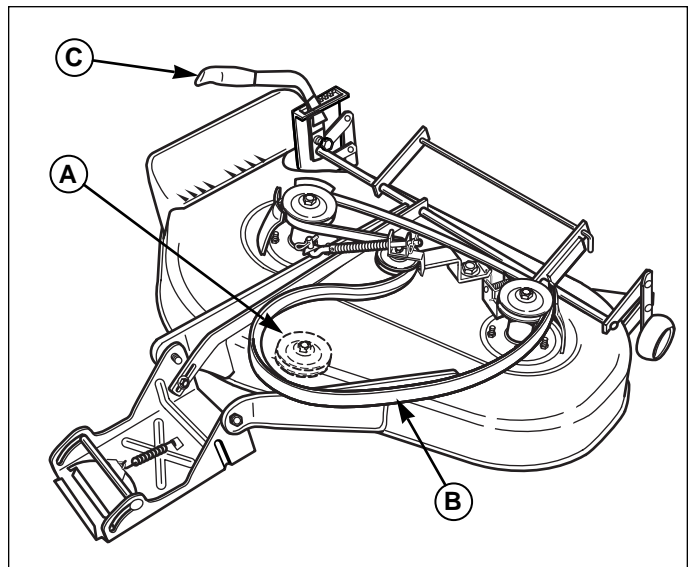

Figure 7. Mower Belt Routing
2. Place mower in the lowest cutting position using the mower height adjustment lever (C, Figure 7).
7. Install the mower drive belt (B, Figure 7) on the engine pulley (A); flex the engine belt guide rearward slightly to get the belt onto the pulley.
1. Pull the cutting height lever (C, Figure 7) back and to the left to release it.